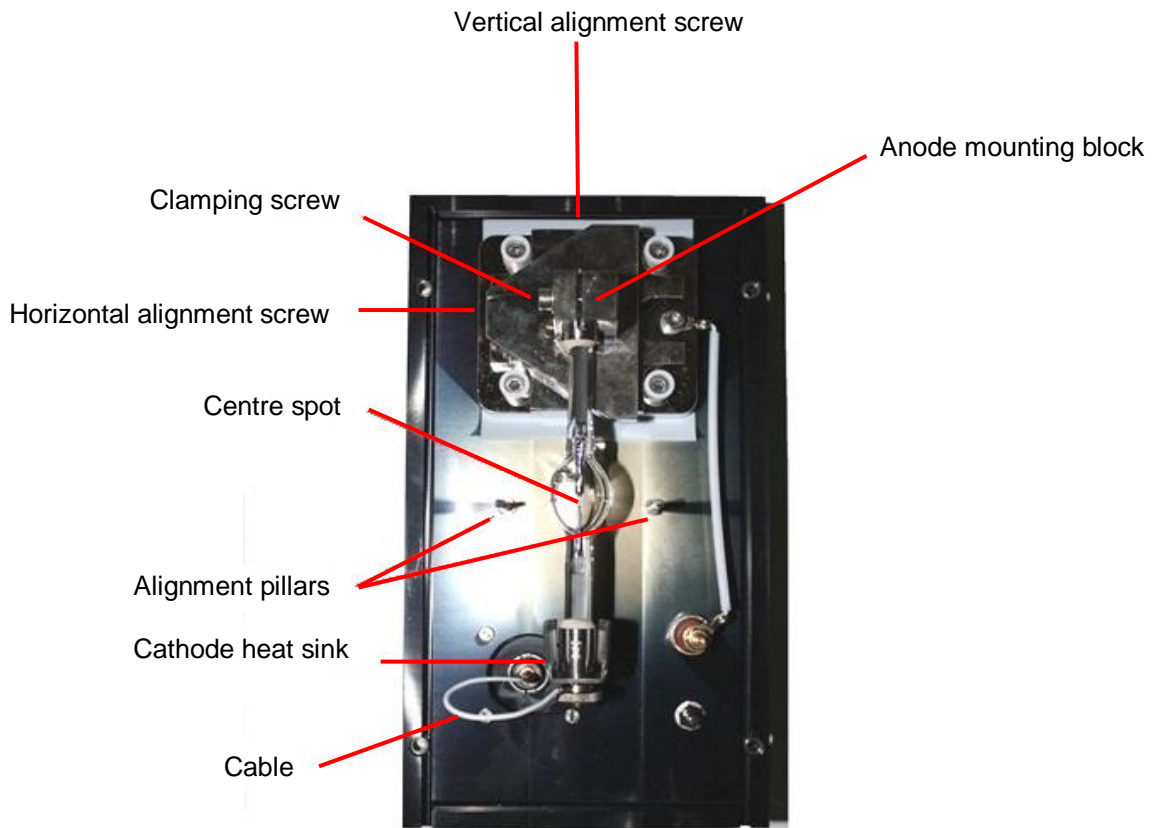

Figure 3.4 - Black lamp housing unit back panel
4. Loosen the clamping screw on the anode-mounting block (Figure 3.4).
6. Gripping the cathode, unscrew the finger-tight nut and remove the cable, washer and heat sink (Figure 3.4).